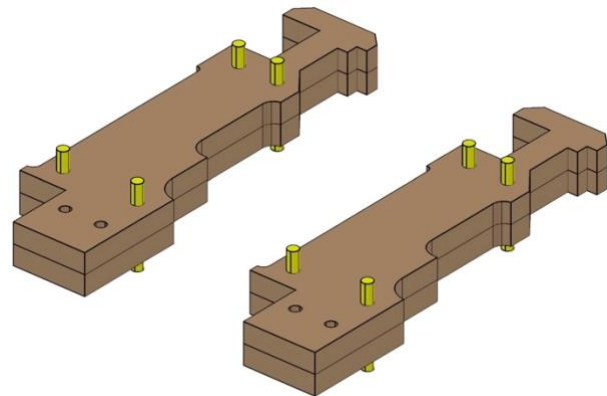

Fig. 6
- Fig. 6 shows the completed process (make two parts).